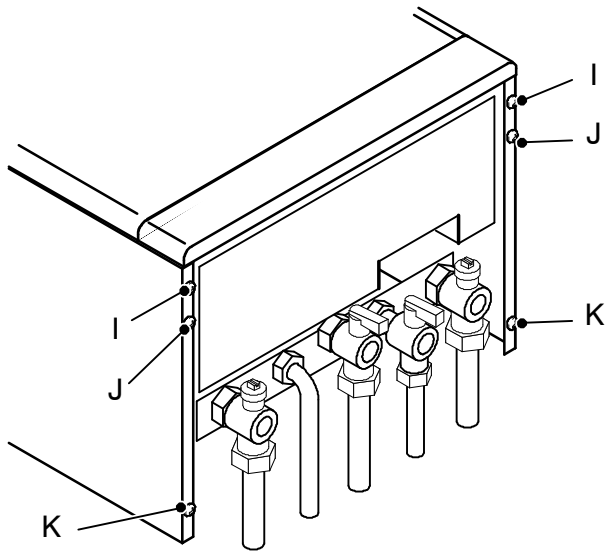

fig. 6.10
- 2 Remove the screws I and J (fig. 6.10).